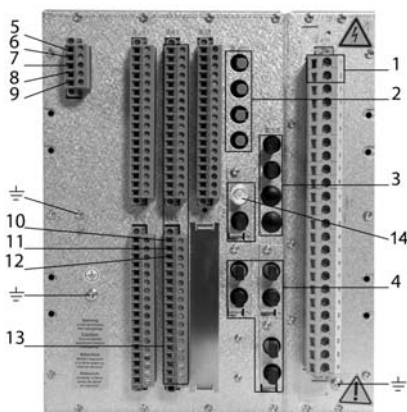

Figure 4: Connections.
2. The optional communication board for communication between IEDs or to remote line end is available on ports X312, X313, X302 and X303 as ordered. See figure 4 for details.
3. Communication interfaces for LON, IEC 61850-8-1, SPA/IEC 870-5-103 or DNP according to included options. One or two optical ethernet ports (X311) exist for communication to substation control systems and substation monitoring systems. Two optical ports (X301) for LON, SPA or IEC 870-5-103 communication can be included. LON plus any of the other protocols can be included. See figure 4 for details.
5. The IO board connectors for IOM, BIM or BOM as ordered. Starting with slot 3 (Connectors X31, X32) seen from the rear left side they are equipped as ordered. Check the ordering document. Binary inputs have auxiliary voltage levels as ordered and are designed to be safe against capacitive discharges and bridge initial contact resistance in external contact. See figure 4 for details.
6. The Power Supply Module (PSM) provides the boards with power. Depending on the PSM ordered, the rated input voltage range is 24-60 VDC or 90-250 VDC with a tolerance of 20%. See figure 4 for details.